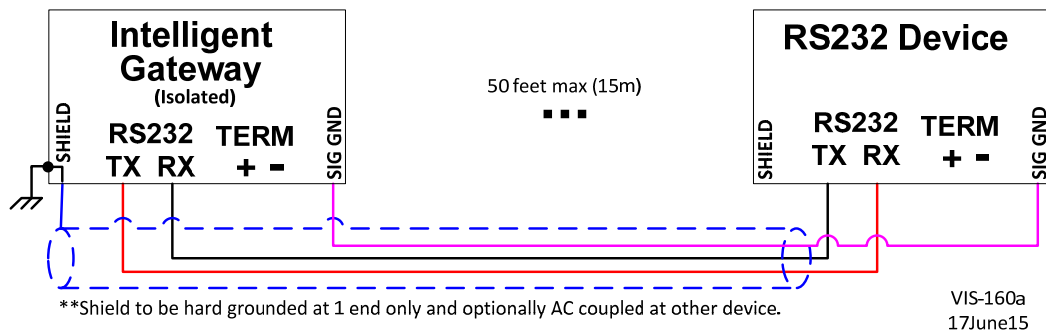

Figure 3-24. Wiring Example—RS-232 Interface to the SmartCore CPU A5200 Board
- **RS-232.** Refer to Figure 3-24 for an RS-232 wiring example. The transmit data (TXD), receive data (RXD), and signal ground (SIG GND) must be properly connected as shown. In addition the shield (SHLD) should be connected in at least one location.